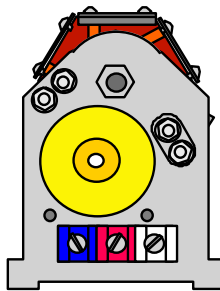

Figure 4-2
- c. Lampchangers (Figure 4-2) are used to extend the service interval by stocking the lantern with 6 operable lamps. The clockwork mechanism is spring wound and triggered by a solenoid activated by the flasher. Lampchangers are available in two versions: the CG-6P and CG-6PHW. The CG-6P will operate lamps 3.05 amps or less (35 watt tungsten-halogen lamp included). The CG-6PHW is used to operate lamps 50 watts and greater.